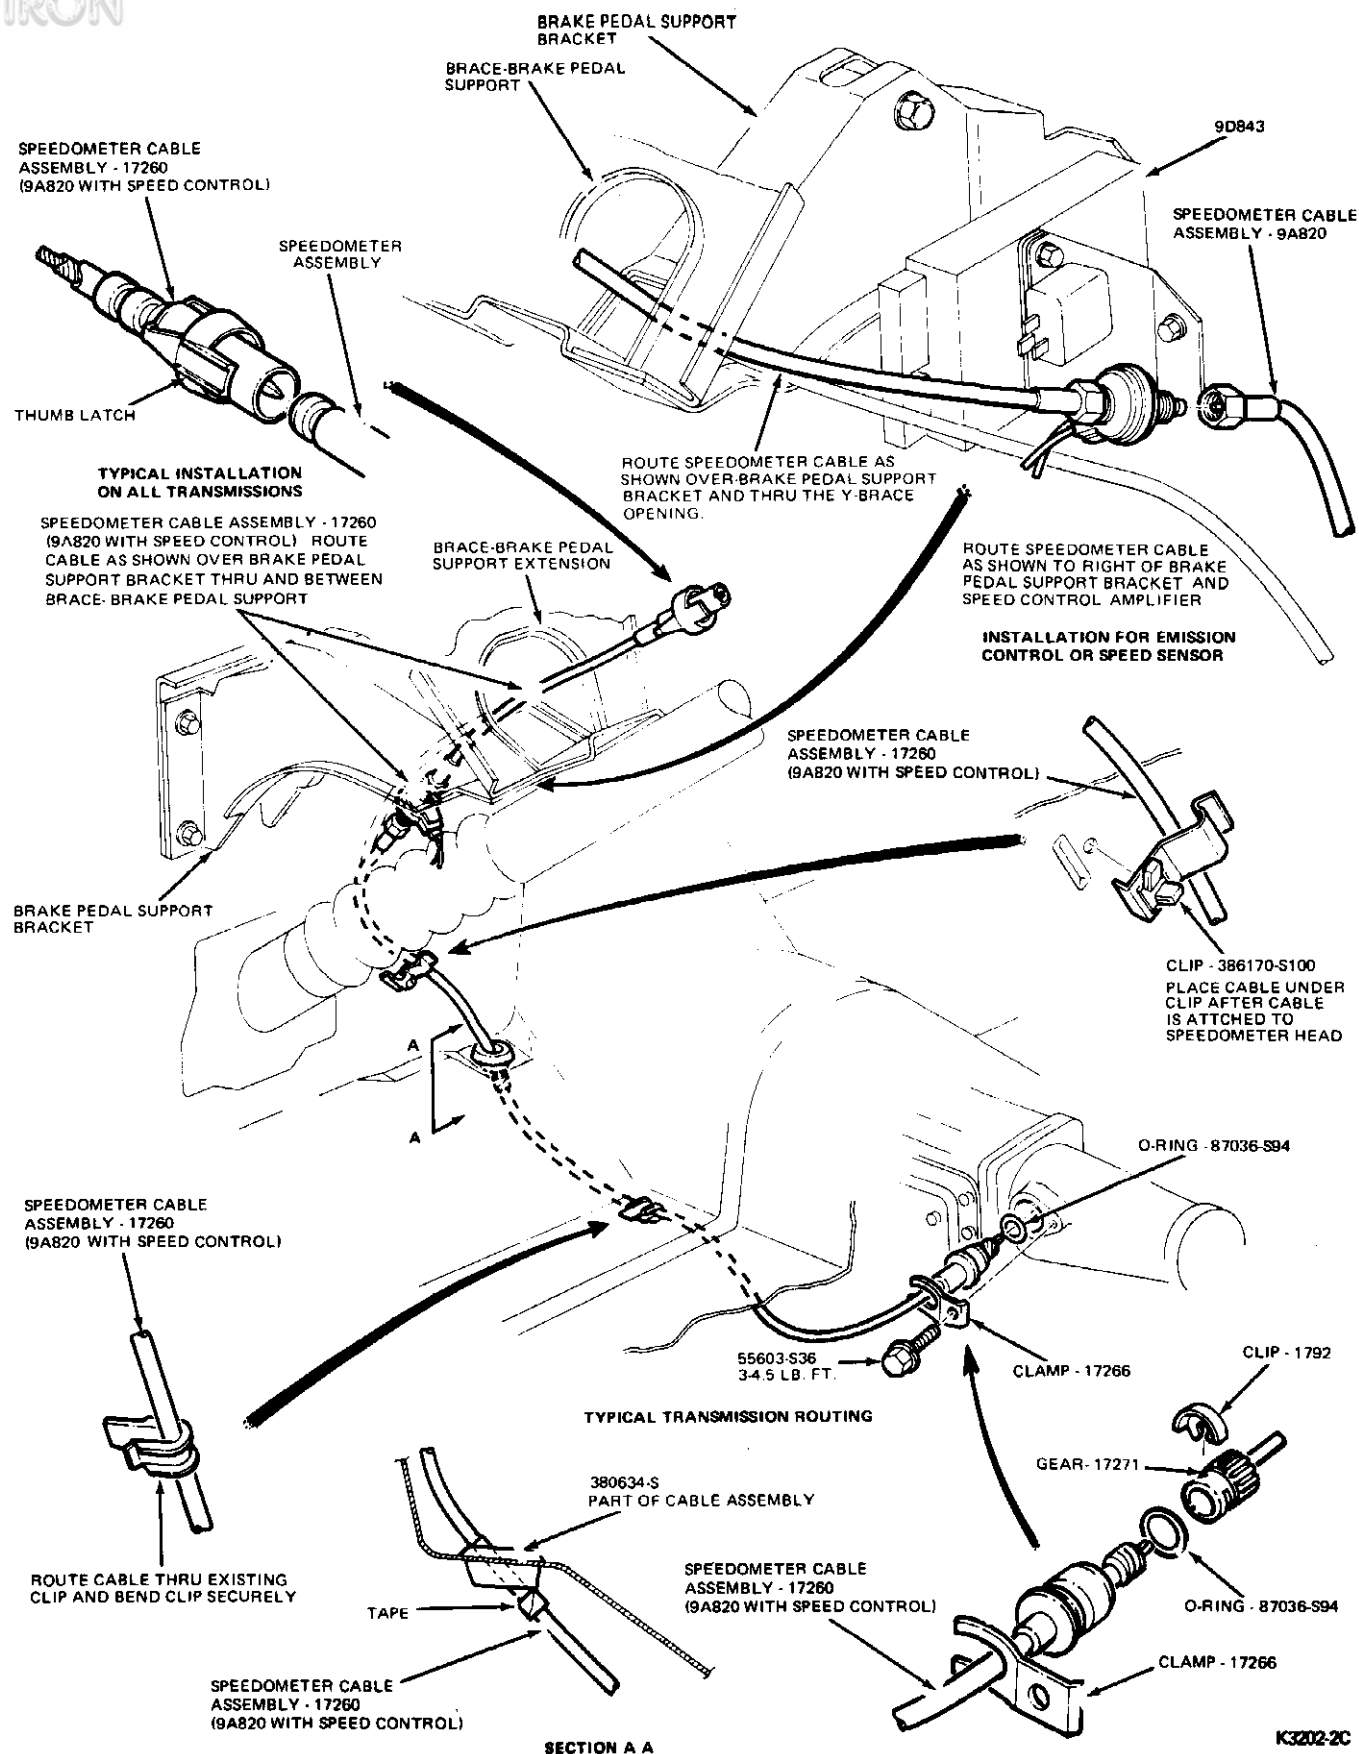

FIG. 3 Speedometer Cable—Ford, Mercury and Lincoln Continental
2. Pull the speedometer core out of the upper end of the casing. Models with speed sensor (Figs. 3, 4, 8, 9 and 10) have upper and lower cable.
Because of the increasing complexity of speedometer cable assemblies, and the importance of proper routing during installation, typical systems are shown here in Figs. 3 to 10. Installation and routing instructions are shown on each illustration.